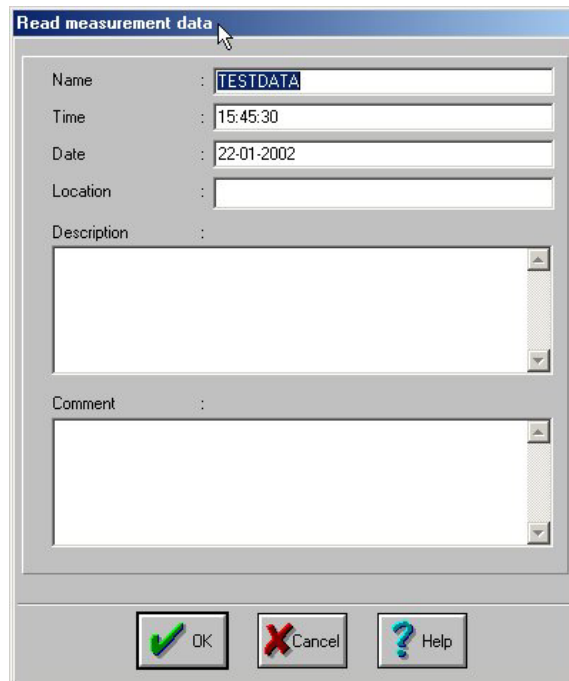

Fig. 1: Comments & Description
7. A 'pop-up' box appears where a filename, details of the measurement procedure, weather conditions, instruments used, etc., etc., can be added if required. (See Fig. 1) Click **'OK'** to accept.